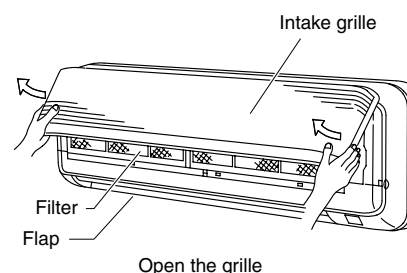

Fig. 3-142
- (1) Lift up on both sides of the air-intake grille to open it. (Fig. 3-142)
- (2) Remove the filter. (Fig. 3-142)